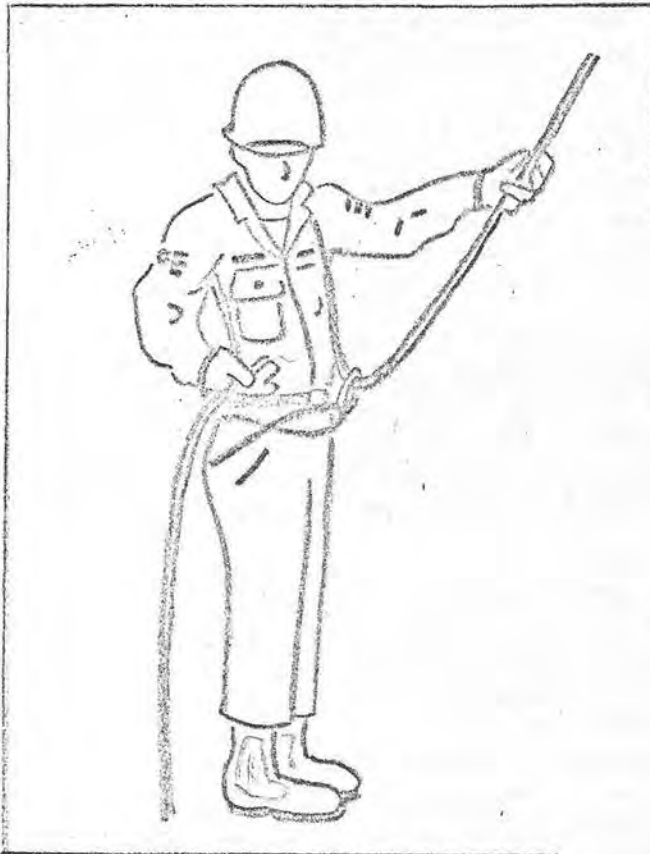

FIG 40. SEAT-SHOULDER RAPPEL
(1) Attaching the Seat: The sling rope is placed across the back so that the midpoint (center) of its length is on the hip that is opposite to the hand that will be used for braking. An overhand knot is tied in the front of the body. The ends of the rope are brought between the legs, front to rear, around the legs and over the hips, and tied with a square knot and two half-hitches on the side opposite the braking hand. The snaplink is placed through the single rope around the waist and through the two ropes forming the overhand knot. The snaplink is then rotated one half turn so that the gate is up and opens away from the body.
(2) Seat-Shoulder Method: (Figure 40) In facing the rappel point, the rappeler snaps into the rope which passes up through the snap link. The rope is then brought over one shoulder and back to the opposite hand, left shoulder to right hand. The same techniques are used in the descent as in the body rappel. This method is faster than the body rappel, less frictional and more efficient for men with packs and during night operations.